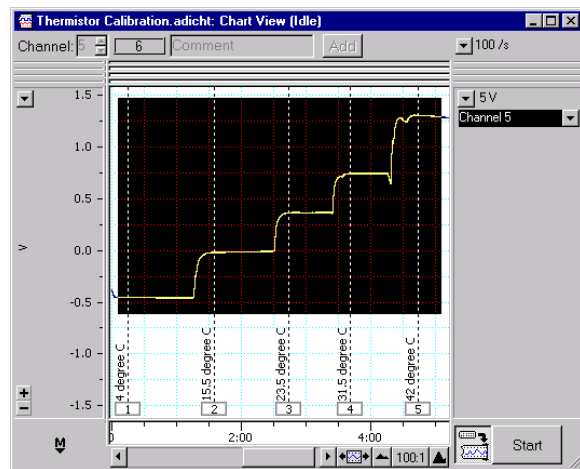

Figure 3. The transducer response to the series of calibration standards. The steps in the recording correspond to the known inputs.
1. Make a recording of the transducer response to a succession of calibration standards. For example, a force transducer might have a series of known weights attached, or a pH electrode might be immersed in a series of buffer solutions of known pH. You might find it helpful to enter Chart comments containing values for the calibration standard. The resulting recording may look similar to that shown in Figure 3.